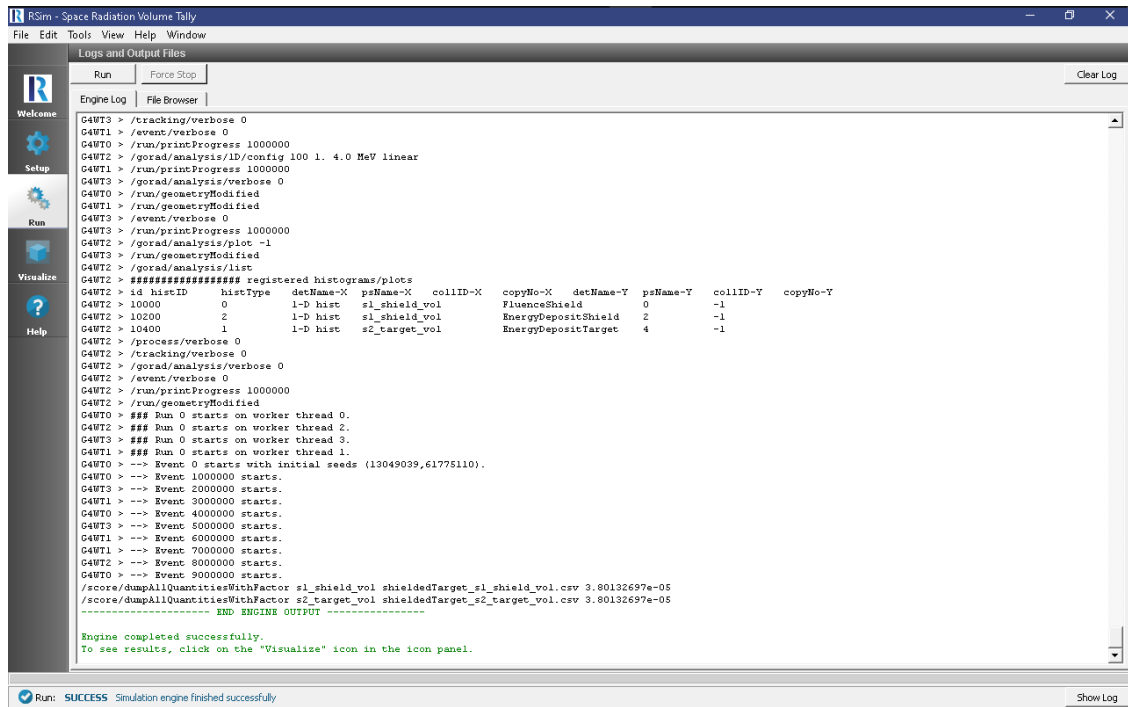

Fig. 2.34: The Run Window at the end of execution.
- To run the file, click on the *Run* button in the upper left corner of the *Logs and Output Files* pane. You will see the output of the run in the right pane. The run has completed when you see the output, “Engine completed successfully.” This is shown in Fig. 2.34.